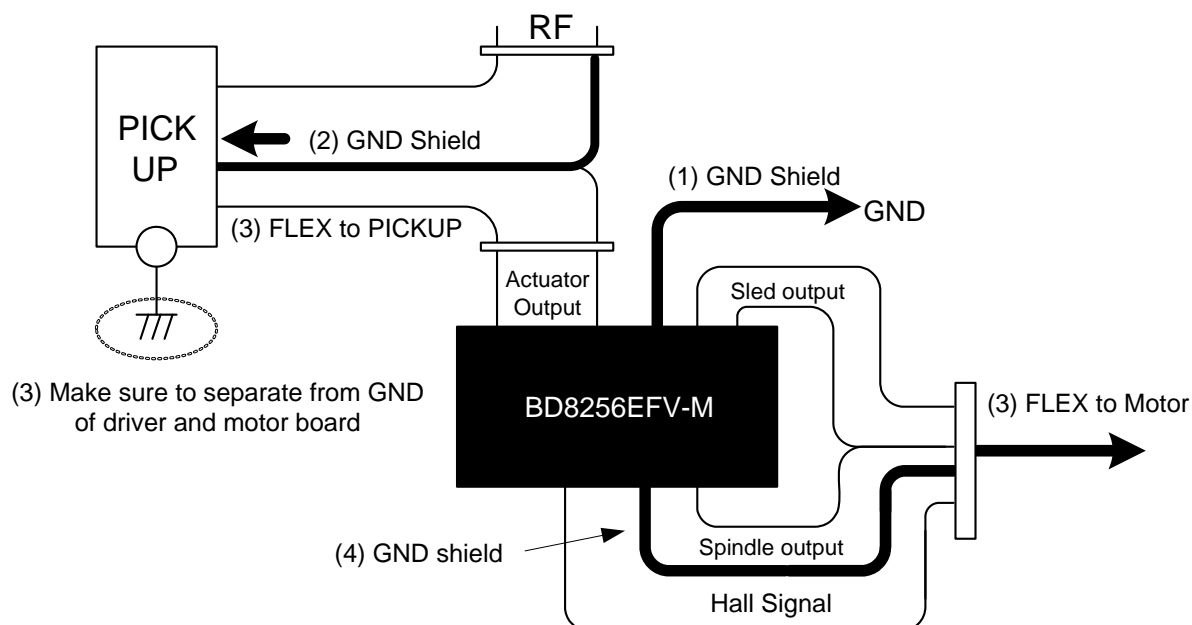

Figure 32. RF Noise Suppression
- Countermeasures against B - See Figure 32 -
- (1) Ensure certain distance between RF signal line and PWM-driven output line. If they must be located inevitably too close, shield the RF signal line with GND except the stable GND.
- (2) Like in (1), flexible cable to the pickup should be shielded with GND in order to separate noise between the signal line and the actuator drive output line.
- (3) Connect the motor system and the actuator system to separate flexible cables.
- (4) As FG pulse is generated from hall signal, provide a shield with stable GND or other wire with low impedance between the PWM output and the hall signal so that noise is not radiated from the flexible cable and the board pattern.